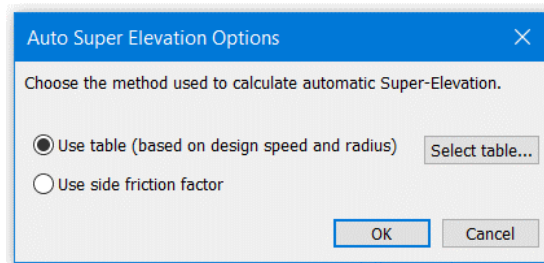

Figure 16-7: Auto Super Elevation Options Dialogue Box
6. Turn the *Auto* check box back *ON* and press the *plus*  button beside it to open the *Auto Super Elevation Options* dialogue box (Figure 16-7).